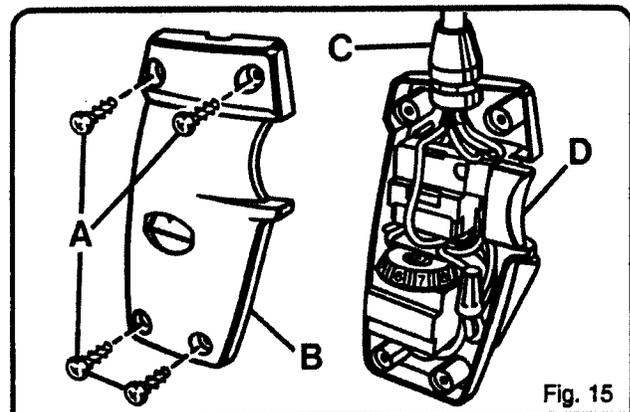

Fig. 15
See Figures 15 & 16.
- Remove screws (A) and handle cover (B). See Fig. 15.